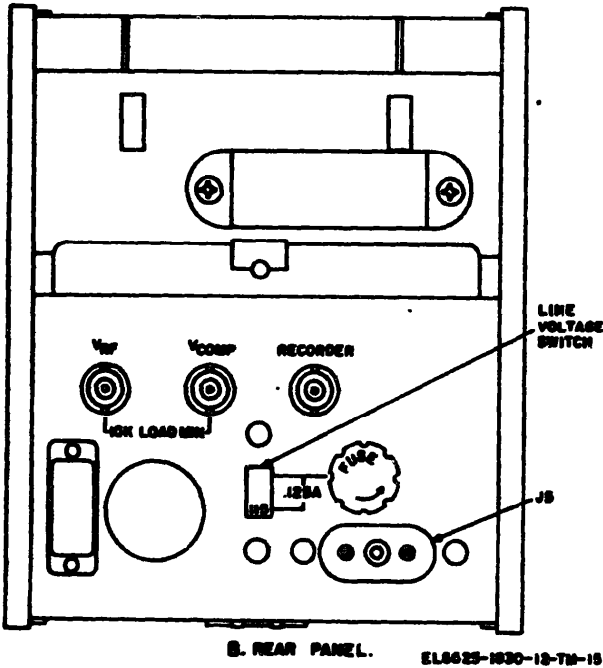

Figure 2-7. Interface Test, Radio Frequency TS-8975/APS-94D, power meter 2A1, controls, indicators, and jacks.
(2) Set the control unit PRIME POWER-POWER switch to ON; the POWER ON pilot light (green) and the RT FAULT light (red) should light.
(3) Actuate the control unit PANEL LIGHTS switch to TEST; the TRANSMITTER READY light (white) and the TRANSMITTER ON light (white) should illuminate.
(4) Set the control unit RT POWER switch to ON; the POWER ON light (green) should illuminate.
(5) Plug the RF test set power meter into 115 volts ac, 60 Hz and (fig. 2-7) set the RF test set power meter POWER switch to ON. Allow a 15-minute warmup period. Coarse zero the power meter (para 2-12).
(6) Set the RF test set METER SWITCH (fig. 2-6) to the RECEIVER position and the power meter RANGE switch to 0 dBm (1 mW). Fine zero the power meter by momentarily actuating the FINE ZERO switch (fig. 2-7). When fine zeroing the power meter make sure the RF test set POWER switch is OFF.
(fig. 2-7)
- a. Turn the RF power to the power meter off by turning the RF test set POWER switch to OFF (fig. 2-7).
- b. Set the power meter RANGE selector switch (fig. 2-7) to COARSE ZERO.